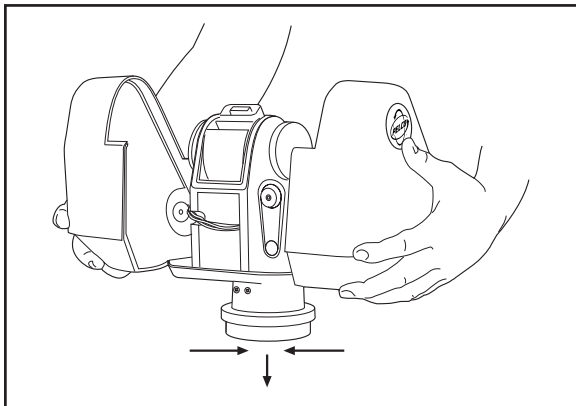

Figure 7. Replacing the Cover Halves
- a. Refer to Figure 7 and grasp one cover half in each hand and position the covers on each side of the pan/tilt unit.